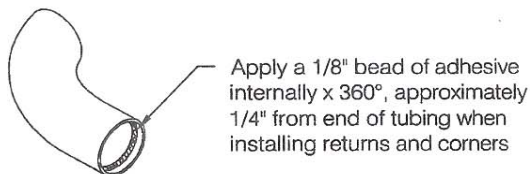
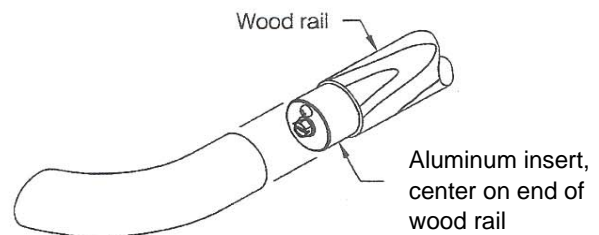

fig 5
fig 6
Important: Be sure to install corner accessories between rails before securing rail at both sides of corner. Use adhesive to install corner accessories as noted in **step 9** for handrail returns, see **fig. 5**.
Step 10: Install BR-1625 wall returns by applying a 1/8" bead of ADH-50 adhesive (provided) inside the accessory opening, see **fig. 5**. With adhesive in place slide return or corner accessory over BRA-1625 insert and align with wall construction, see **fig. 6**.